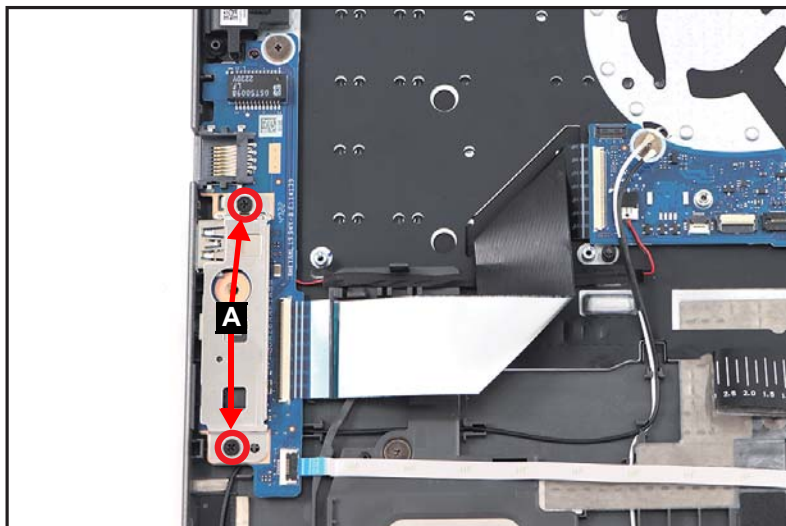

Figure 1-35. Mainboard Removal
1. Remove two (2) screws (A) securing the left IO bracket (Figure 1-35).